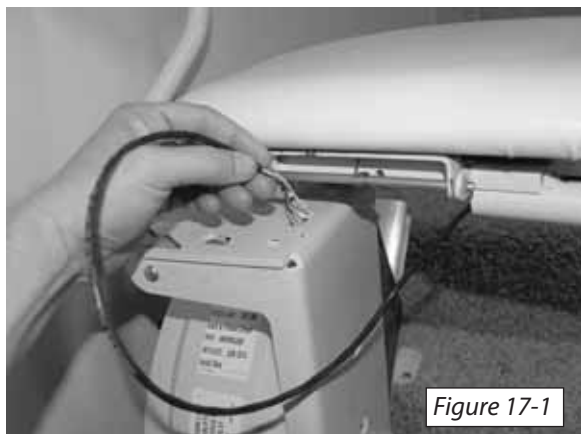
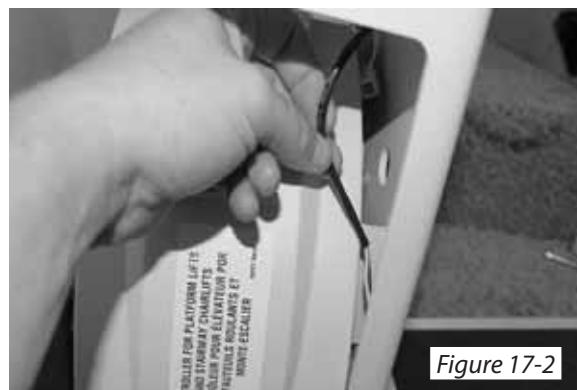

Figure 17-1
Figure 17-2
3. Route the 3 pin wire connector through the hole in the top of the seat chassis and down the left side. *[Figure 17-1 and Figure 17-2]*